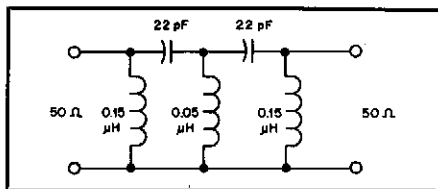

Fig. 2 — Schematic of a high-pass filter to reduce HF signals entering a 2-meter radio.
Addition of a high-pass filter (Fig. 2) to the RF input of the VHF radio is a much more straightforward solution to the problem. The basic design is a 5-pole Butterworth high-pass filter with a cutoff (3-dB) frequency of 86 MHz. In my particular case, the TVI was eliminated when the filter was placed in the transmission line of the VHF rig. — Bob Loving, Jr., K9JU, Streamwood, Illinois
□ Here are a few corrections to the February 1984 Hints and Kinks article, "A Two-Transistor Transmitter for 30 Meters." The parts-placement diagram shows 300-pF capacitors in the output network, instead of the 330-pF values shown on the schematic diagram. Either value appears to work. If you use point-to-point wiring, as shown in Fig. 2, it may be necessary to reduce the value of the 130-pF silver-mica capacitor. The author used a value of 82 pF in his original design. The value of L1 is 0.8 μH, not 0.08 μH. The winding information given for this coil is correct. □